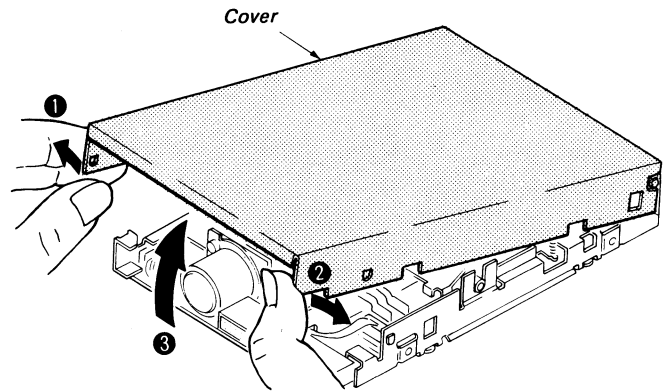

Fig. 4-2 Cover Replacement
- Insert your finger into the rear right side portion of the Cover as shown in Fig. 4-2, and dislocate the cover from the hook while applying some force to the direction marked with arrow. Dislocate the rear left side portion of the cover from the hook and the whole Cover can be taken out.
- Match the cutting edge with the emboss located in the front side of the drive and then put the rear of the Cover into the proper position. (Refer to Fig. 4-2)